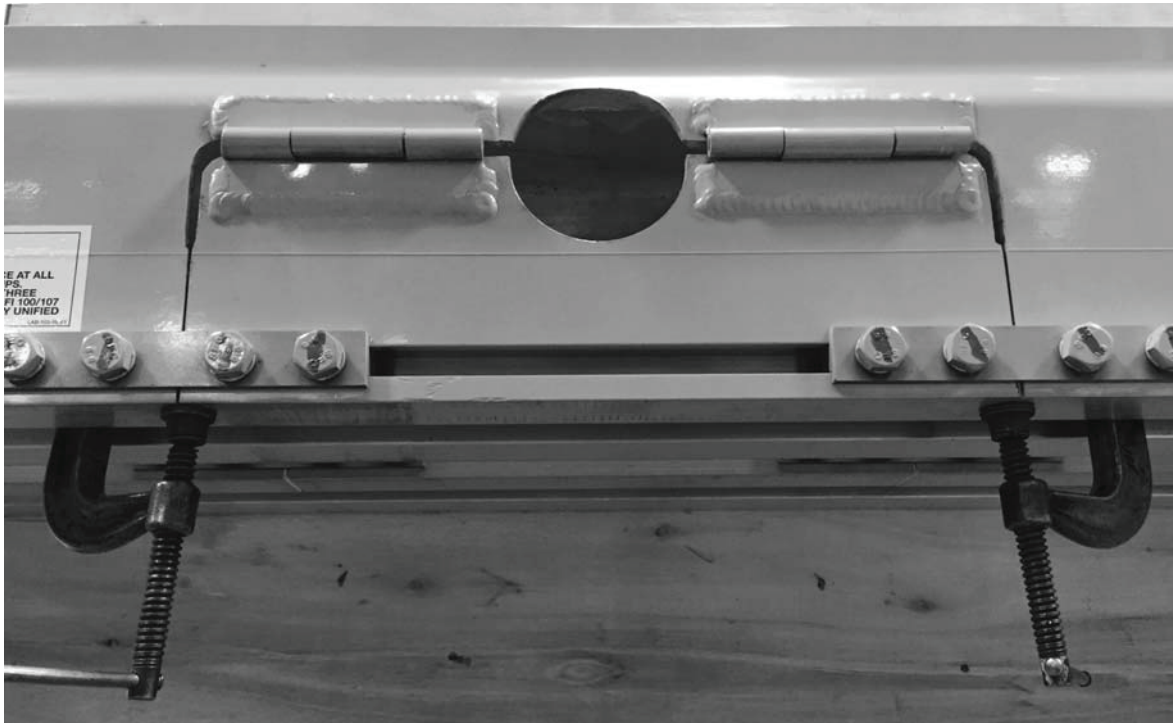

FIG. 1
1. Place (2) C-clamps on each seam of the inspection gate and rail. Snug tight.
2. Insert splice bar assemblies into each end of the inspection gate (as shown in Fig. 1)